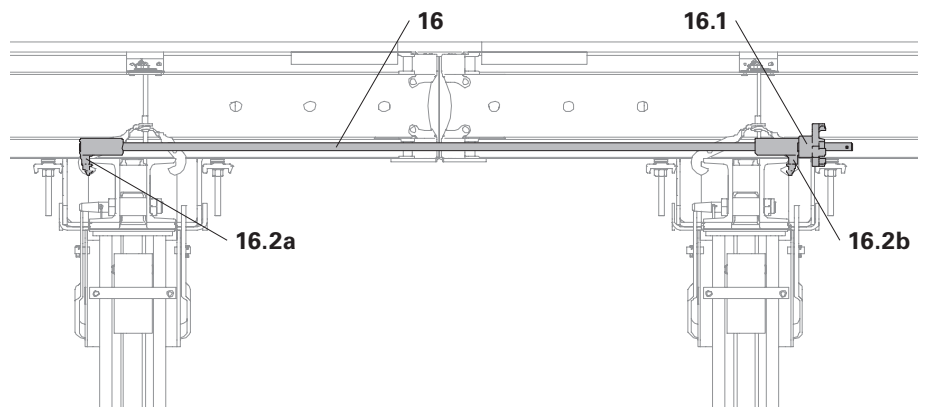

Fig. A2.10
1. Slide the Coupling VD (16) in the centre of the table over the outer Steel Walers SRU U120 (6) of both tables.
2. Mount hook tie (16.2a) on one side in the Steel Waler SRU U120 (6).
3. Mount the hook tie (16.2b) on the other side in the Steel Waler SRU U120 (6) and secure by means of a triple wingnut (16.1). (Fig. A2.10)